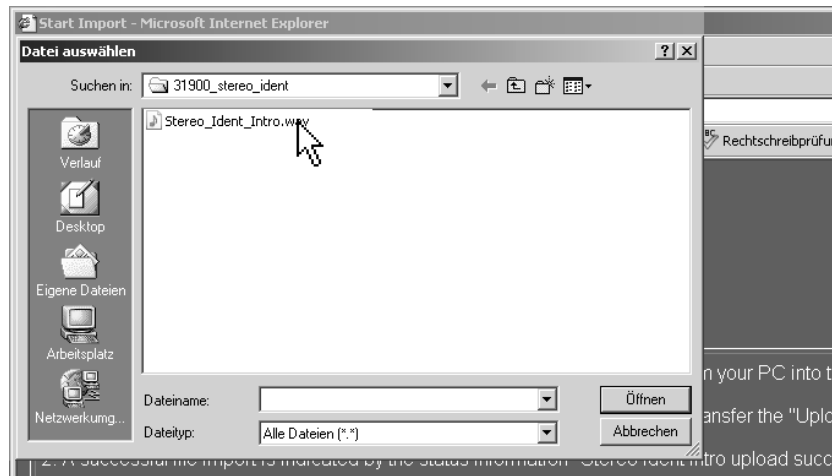

Fig. 8-35: The file selection dialog box (blitsIntro.wav)
4. Choose the folder (e. g.: C:\31900_BLITS) with the ident intro wave file and click the file e. g. **Stereo_Ident_Intro.wav** (see Fig. 8-35).